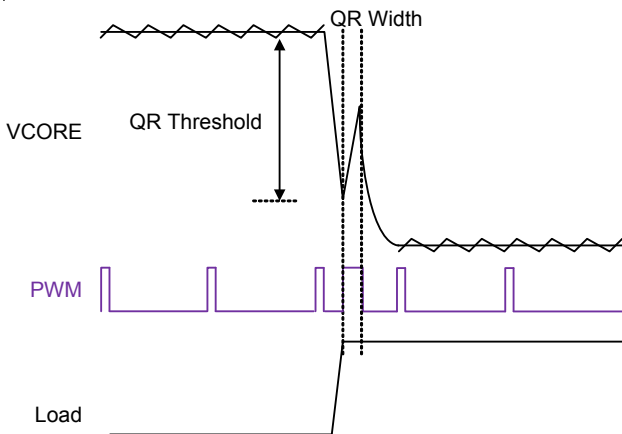
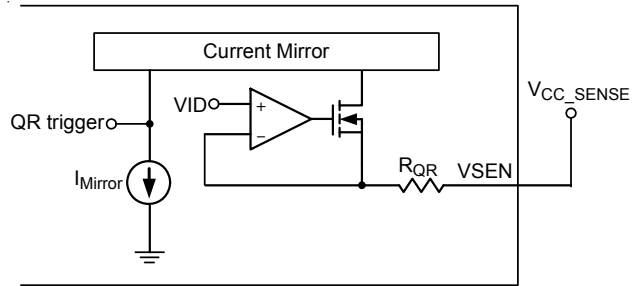

Figure 13. Quick Response Mechanism
Figure 14. Simplified QR Trigger Schematic
**Quick Response (QR) Mechanism**
When the transient load step-up becomes quite large, it is difficult for loop response to meet the energy transfer. Hence, that output voltage generate undershoot to fail specification. The RT8171C has Quick Response (QR) mechanism being able to help improve this issue. It adopts a nonlinear control mechanism which can enlarge the on time of PWM signal at instantaneous step-up transient load to restrain the output voltage drooping, Figure 13 shows the QR behavior.
The output voltage signal behavior needs to be detected so that QR mechanism can be triggered. The output voltage signal is via a remote sense line to connect at VSEN pin that is shown in Figure 14. The QR mechanism needs to set QR width and QR threshold. Both definitions are shown in Figure 13. A proper QR mechanism set can meet different applications. The SET2 pin is a multi-function pin which can set QR threshold, QR width and ICCMAX.